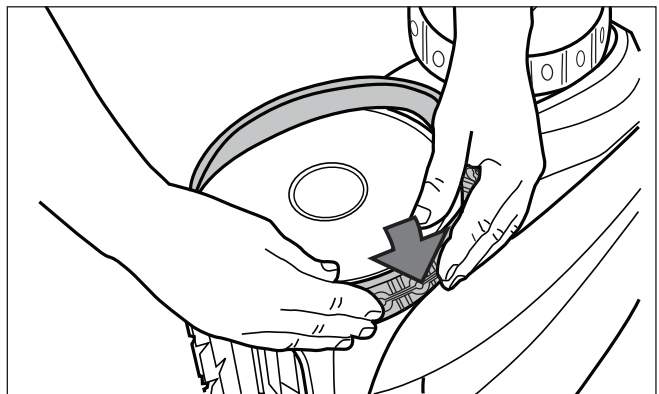

Figure 31. Start on One Side of the Tyre
5. Push one side of the tyre on to the wheel and fit the rib of the tyre in the groove of the wheel (Figure 31).